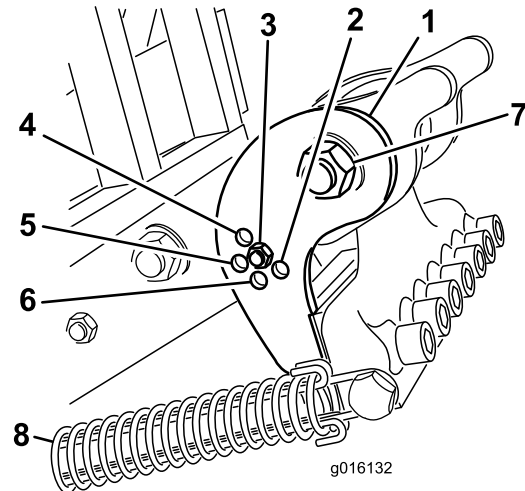

Figure 38
Set the camber bracket (Figure 38) to the correct position based on the length of tines to be used. The head stop is set to one of five predetermined positions by choosing the hole through which the adjustment rod is bolted. These holes are presets
3. Release the spring tension to the tine head (Figure 38).
4. Remove the nut and bolt in the adjustment holes in the camber bracket (Figure 38).